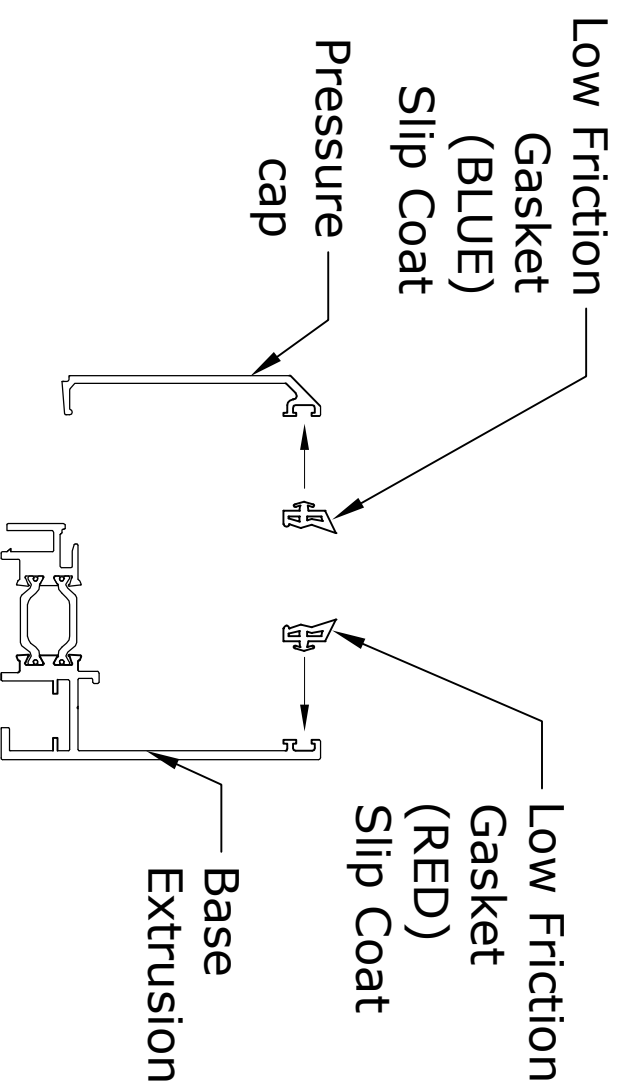

Fig 1
- 1.) Insert the low friction gasket (BLUE) into the pressure cap. See Fig 1 Insert the low friction gasket (RED) into base extrusion after base is anchored to substrate and prior to installing glazing panels.